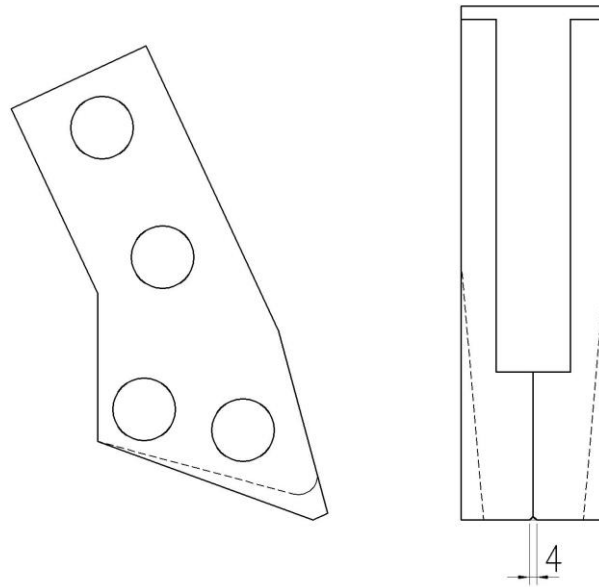

Figure 10
- Replace the tip blade before it is worn as the “Figure 10”.